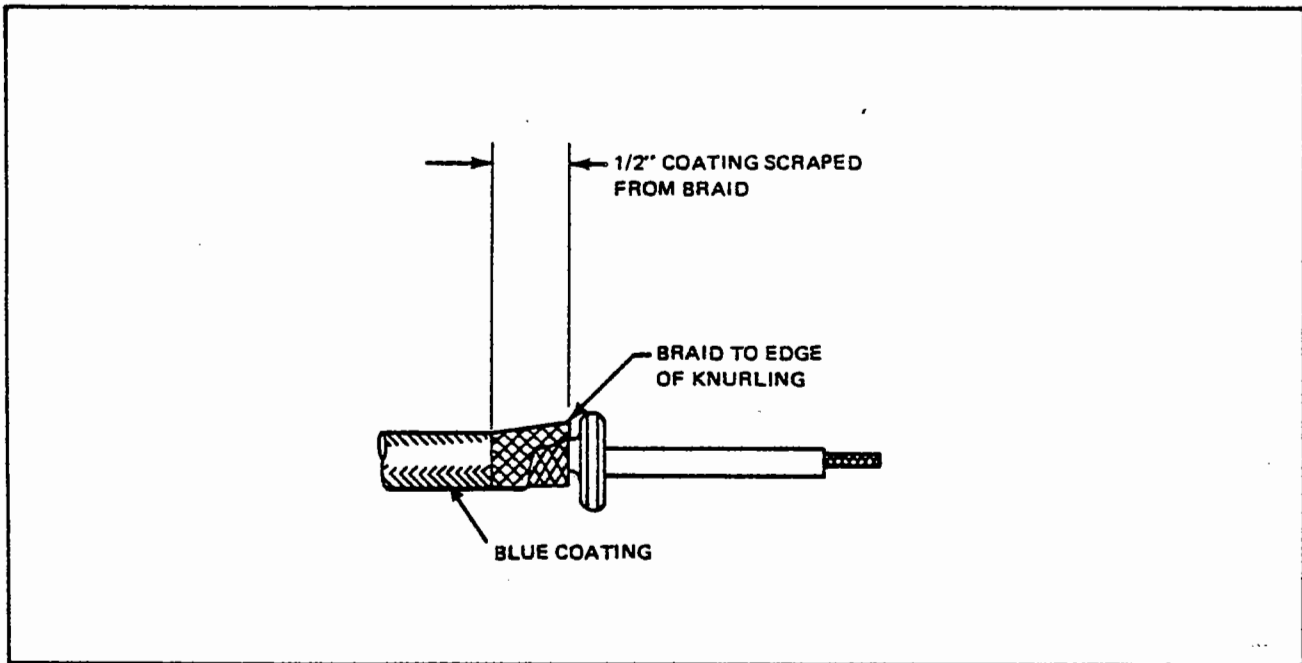

Figure 74-26. Ferrule Positioned Under Braid
- F. Push back braid and thread a new ferrule over wire and under braid until braid just covers knurling. (Refer to Figure 74-26.)